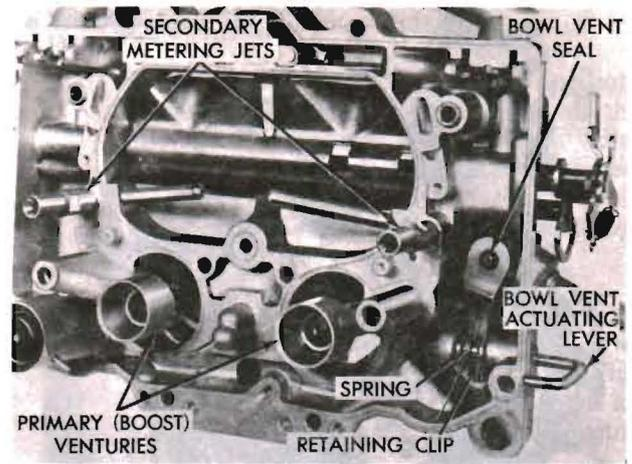
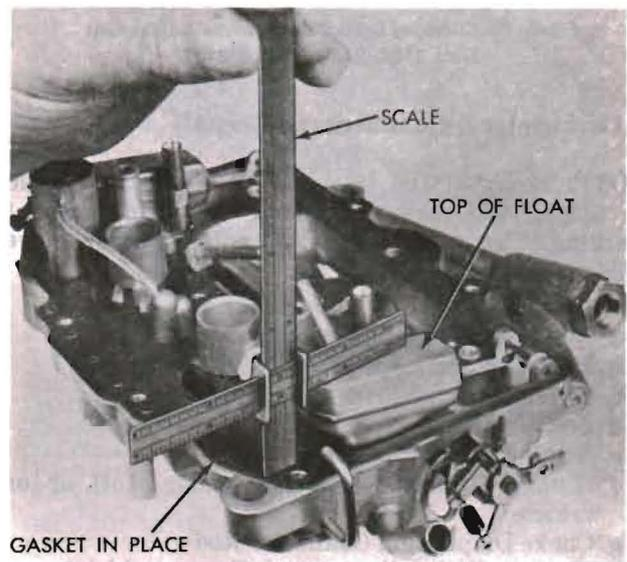

Figure 17. Bowl Vent Assembly Installation
Figure 18. Checking Float Height
- (8) If the discharge check needle leaks after the above test, attempt to reseat it as follows:
- (9) Install a new grommet seal on bowl vent arm, position bowl vent arm in bowl cover with bowl vent spring hooked in the arm, then install the bowl vent connector rod, making sure that rod goes through loop of spring and the flat end engages the slot in bowl vent arm. Install the retainer clip. Bowl vent connector rod should be up when installed with bowl cover in an inverted position. (See figure 17.)
- (10) Place gaskets on fuel inlet needle seats, then install the seats in bowl cover. Tighten both seats securely. (Make sure each needle seat and needle is re-installed in its original position, if being re-used).
- (11) Place a new bowl-cover to main-body gasket in position on the bowl cover, then slide right- and left-hand floats into position in bowl cover. Install float fulcrum pins. Make sure the marked float is installed on pump side of bowl cover.
- (12) With bowl cover inverted, gasket installed and floats resting on seated needle, the dimension of each float from bowl cover gasket to bottom side of float should be according to specifications for the particular carburetor involved. (See figure 18.) To adjust, bend the float lever.